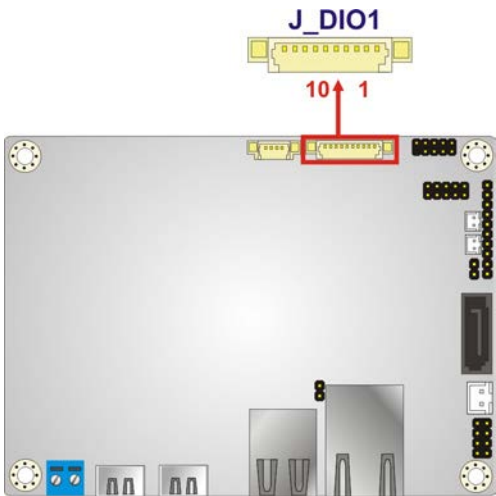

Figure 3-10: Digital I/O Connector Location
- CN Location: See Figure 3-10